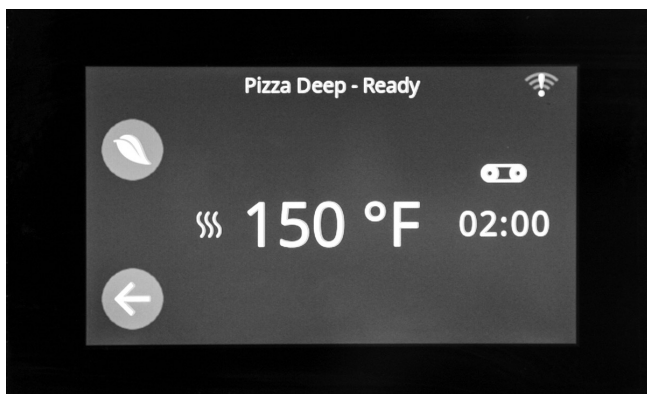

Figure 5
- A. **When the oven reaches the set-point temperature, the conveyor belt will start to move.** The display will show the selected set-point temperature and belt speed (cook time) (Figure 5).